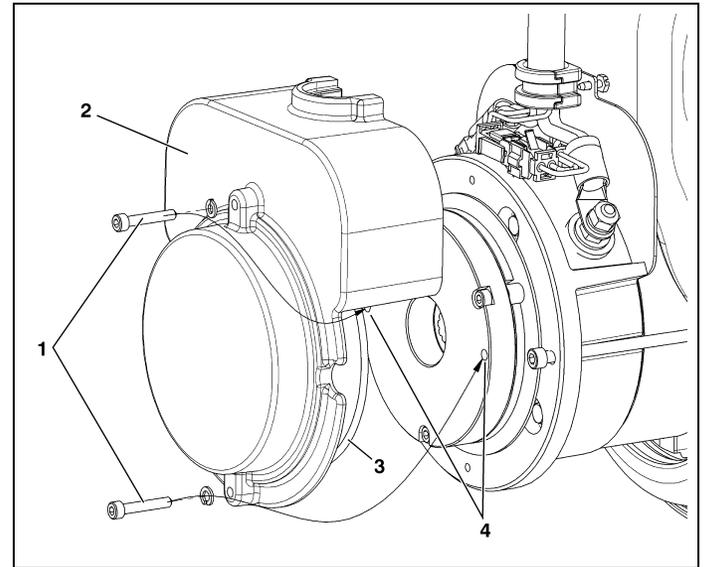

Figure 4-17. Brake - Manual Disengage.
(See Figure 4-17.)
3. Remove the **two cover bolts (1)**, **cover (2)**, and **cover o-ring seal (3)** from the back of drive motor unit.
4. Insert the cover bolts into the **two disengage holes in the brake housing (4)**, see Item 4 in Figure 4-17., Brake - Manual Disengage.